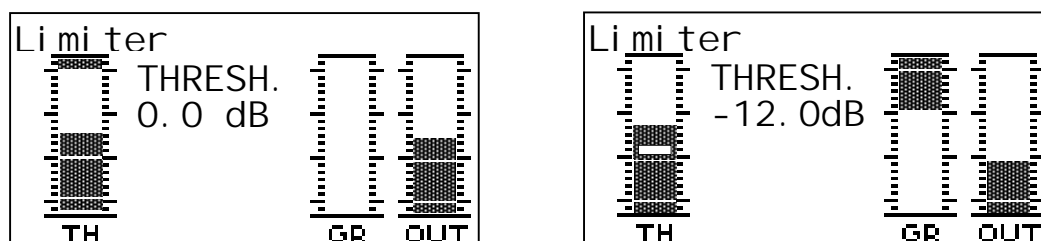

Fig. 11. Limiter display (left) and Limiter Threshold while editing (right)
- GR (Gain Reduction): This bar shows when the limiter is active (the threshold value is being exceeded by the input level). The gain reduction level will display as an inverted VU bar (see Fig. 11, right).